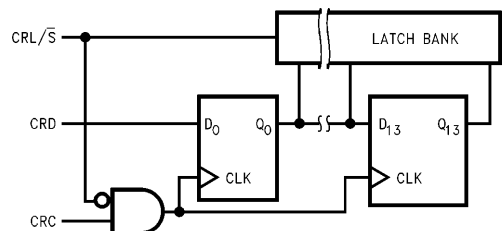

FIGURE 11. CTRL Register Block Diagram
The control register is comprised of a fourteen-bit serial shift register and a fourteen-bit latch (Figure 11). Information is strobed into the shift register via the CONTROL REGISTER DATA (CRD) input on the positive edge of the CONTROL REGISTER CLOCK (CRC) input with the CONTROL REGISTER LATCH/SPLIT BAR (CRL/S) pin at a logical low state. The information is parallel transmitted to the latch bank and the ENDEC when the CRL/S input is taken to a logical high state. The control register truth table (Table I) describes the functions controlled by each bit in the control register. The bit at the right of each bit stream (13) in the table is the first bit entered into the shift register.